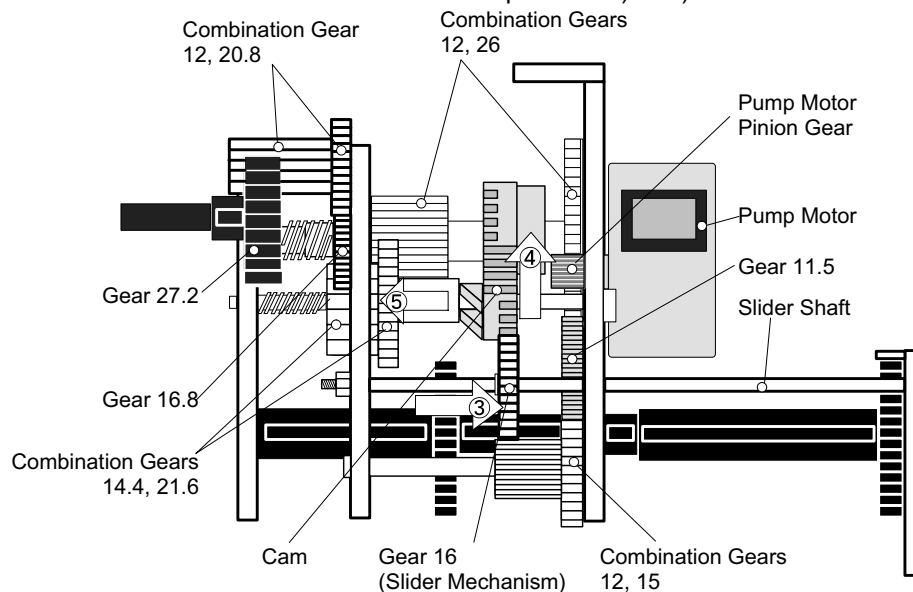

Figure 2-8. ASF Mechanism
ASF mechanism, which consists of the Pump motor, slider mechanism, disengage mechanism, and ASF unit, loads paper into the paper feed mechanism. When the CR unit returns to the home position, it pushes the slider in the slider mechanism to the right and the Gear (16) in the slider mechanism then comes to engage with the Change cam in the disengage mechanism. With this motion, the Pump motor rotates with the specified steps in the counter clock wise, which switches the Change cam to the ASF unit side, then the torque from the Pump motor is transmitted to the ASF unit. The process in which the drive from the pump unit is switched to the ASF unit side is described below. Figure 2-8 illustrates the process for the switching operation.
- 3) The Gear (16) is engaged to the Change cam in the disengage mechanism. (Slider mechanism)